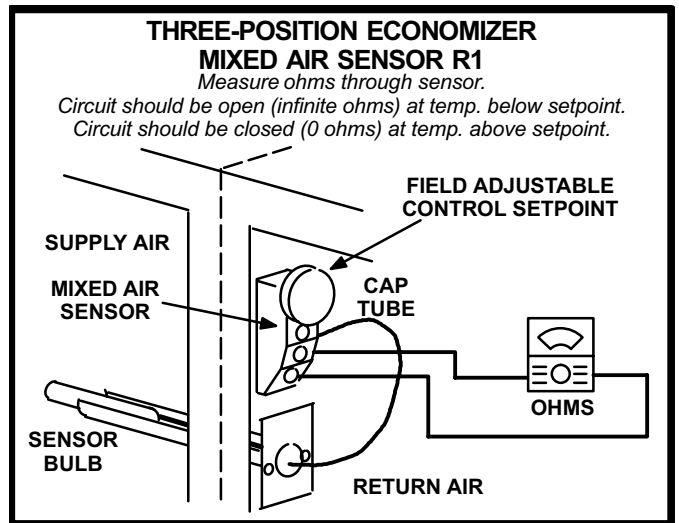

**FIGURE 13**
- 11- Turn on power to unit. (See figure 13).